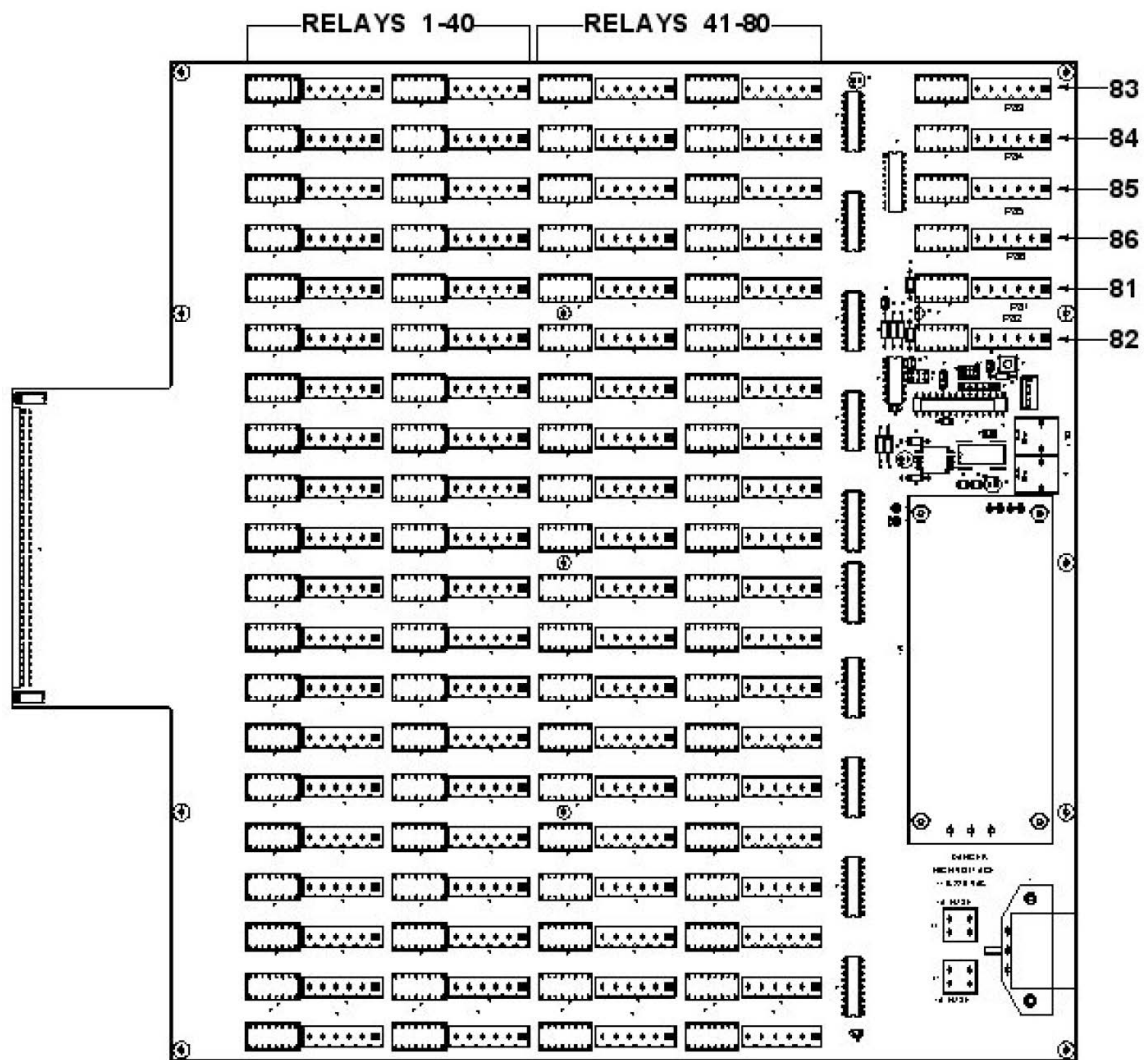

Figure 15. Relay Output Board
- See Figure 15 for layout and relay locations.